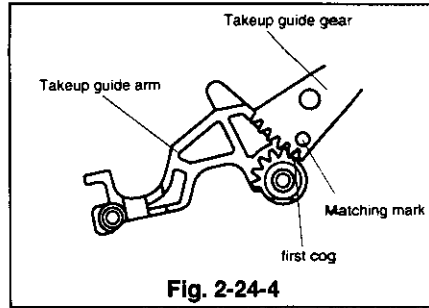

Fig. 2-24-4
- 4 Install the takeup guide gear so that the first cog of the takeup guide arm aligns with the matching mark on the takeup guide gear as shown in Fig. 2-24-4.